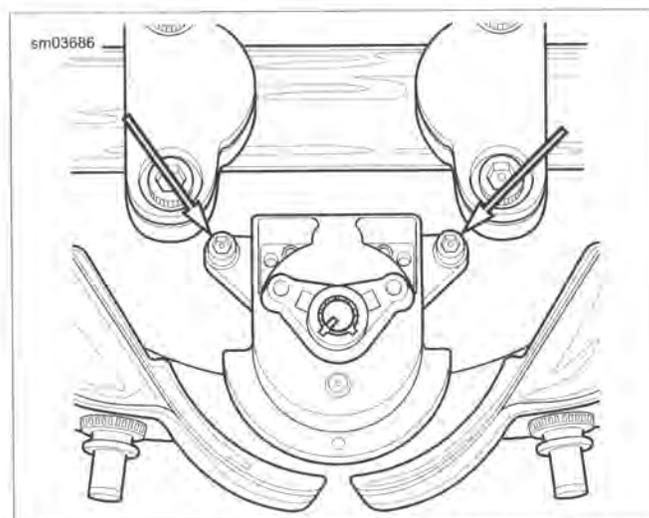

Figure 7-50. Fork Lock (Road King)
- US models:** See Figure 7-50. Remove two screws (with flat washers).
- See Figure 7-50. Position fork lock assembly into bore of upper fork bracket.